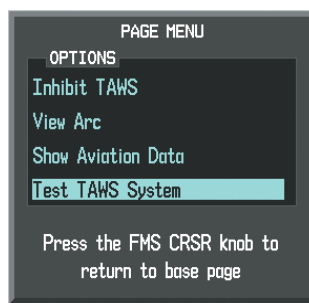

Figure 6-87 TAWS-B Page Menu
- 2) Press the **MENU** Key (Figure 6-87).